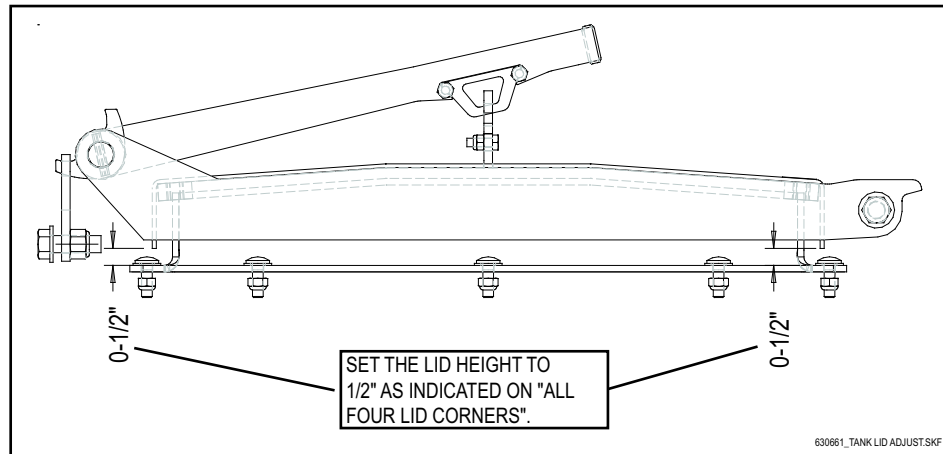

Figure 11.50 - Tank Lid Assembly - Distance Set (Small Lid Shown)
The preload on the tank lids (large and small) on the Air Seeder MUST be set to 1/2" as shown in *Figures 11.50 & 11.51*.
1. With the tank lid closed and latched, measure the distance on the four corners of the lid. Refer to *Figure 11.50*.